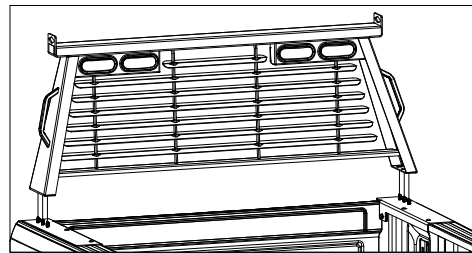

Figure C1: View looking at back of truck.
- 1. Mount Cab Protector.** Position the slots on the bottom of the cab protector over threaded studs on the bed protectors, see Figure C1. Fasten the cab protector with the provided 3/8" Large flat washers, lock washers, and finish nuts. Before fully tightening, make sure the cab protector is centered with the truck as viewed from the rear. Then tighten the 6 nuts on the cab protector to 20 ft-lbs. Do not overtighten.